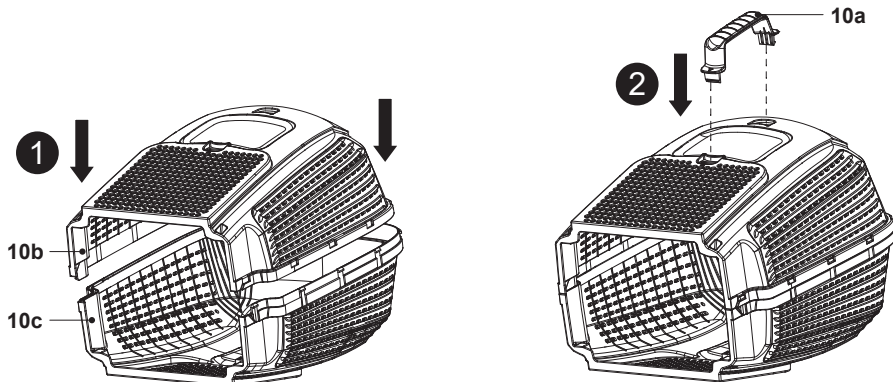

Fig. 4
3. Fit the handle (10a) into the top of the grass box (Fig. 4).